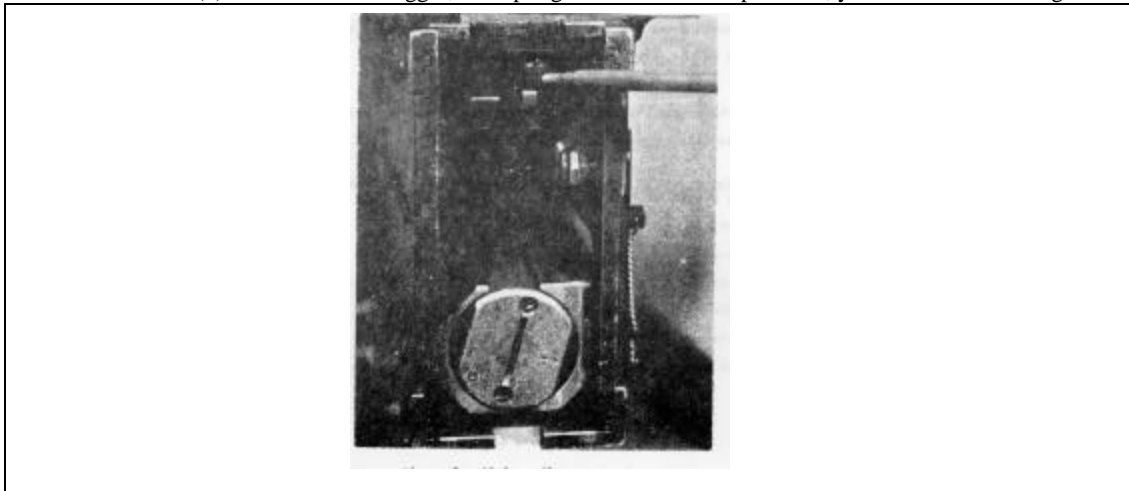

Figure 7. Timing adjustment nut
- (d) Screw the timing adjustment nut counterclockwise until it stops. (See Figure 7.)
- (f) Rotate the timing adjustment nut clockwise one (1) click at a time, each time pressing up firmly on the trigger lever, attempting to fire the weapon.
- (g) When the weapon fires, turn the timing adjustment nut two (2) additional notches clockwise and replace the backplate.
- (7) Replace the NO FIRE gauge with the FIRE gauge and attempt to fire. The weapon should fire.
- (8) When all of the above procedures have been completed, the weapon is correctly timed.